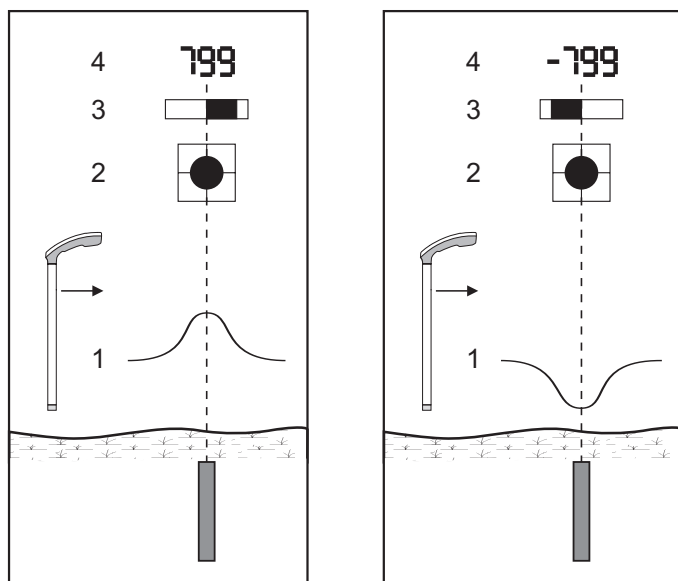

Fig. 6: Object in a vertical position (cross section) – Possible location results
- objects in a vertical position (Fig. 6)